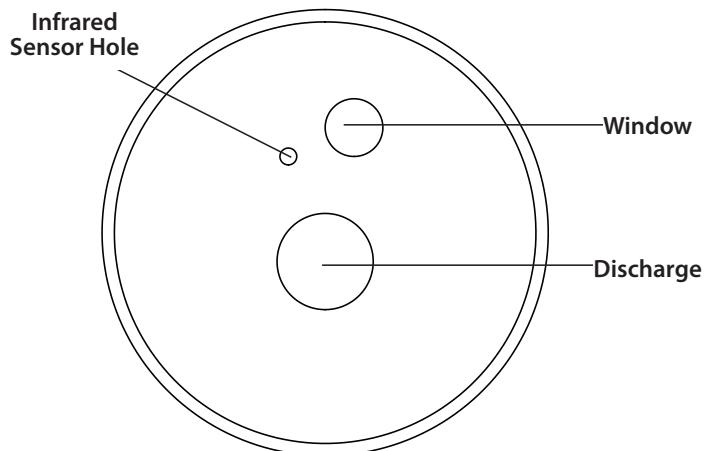

FIG. 27
27 Install the Dust Sentry Infrared Sensor (J) to the Drum Lid's (K) pre-cut hole [FIG. 27]. Ensure that the additional hole is sealed with the Plug (G20).